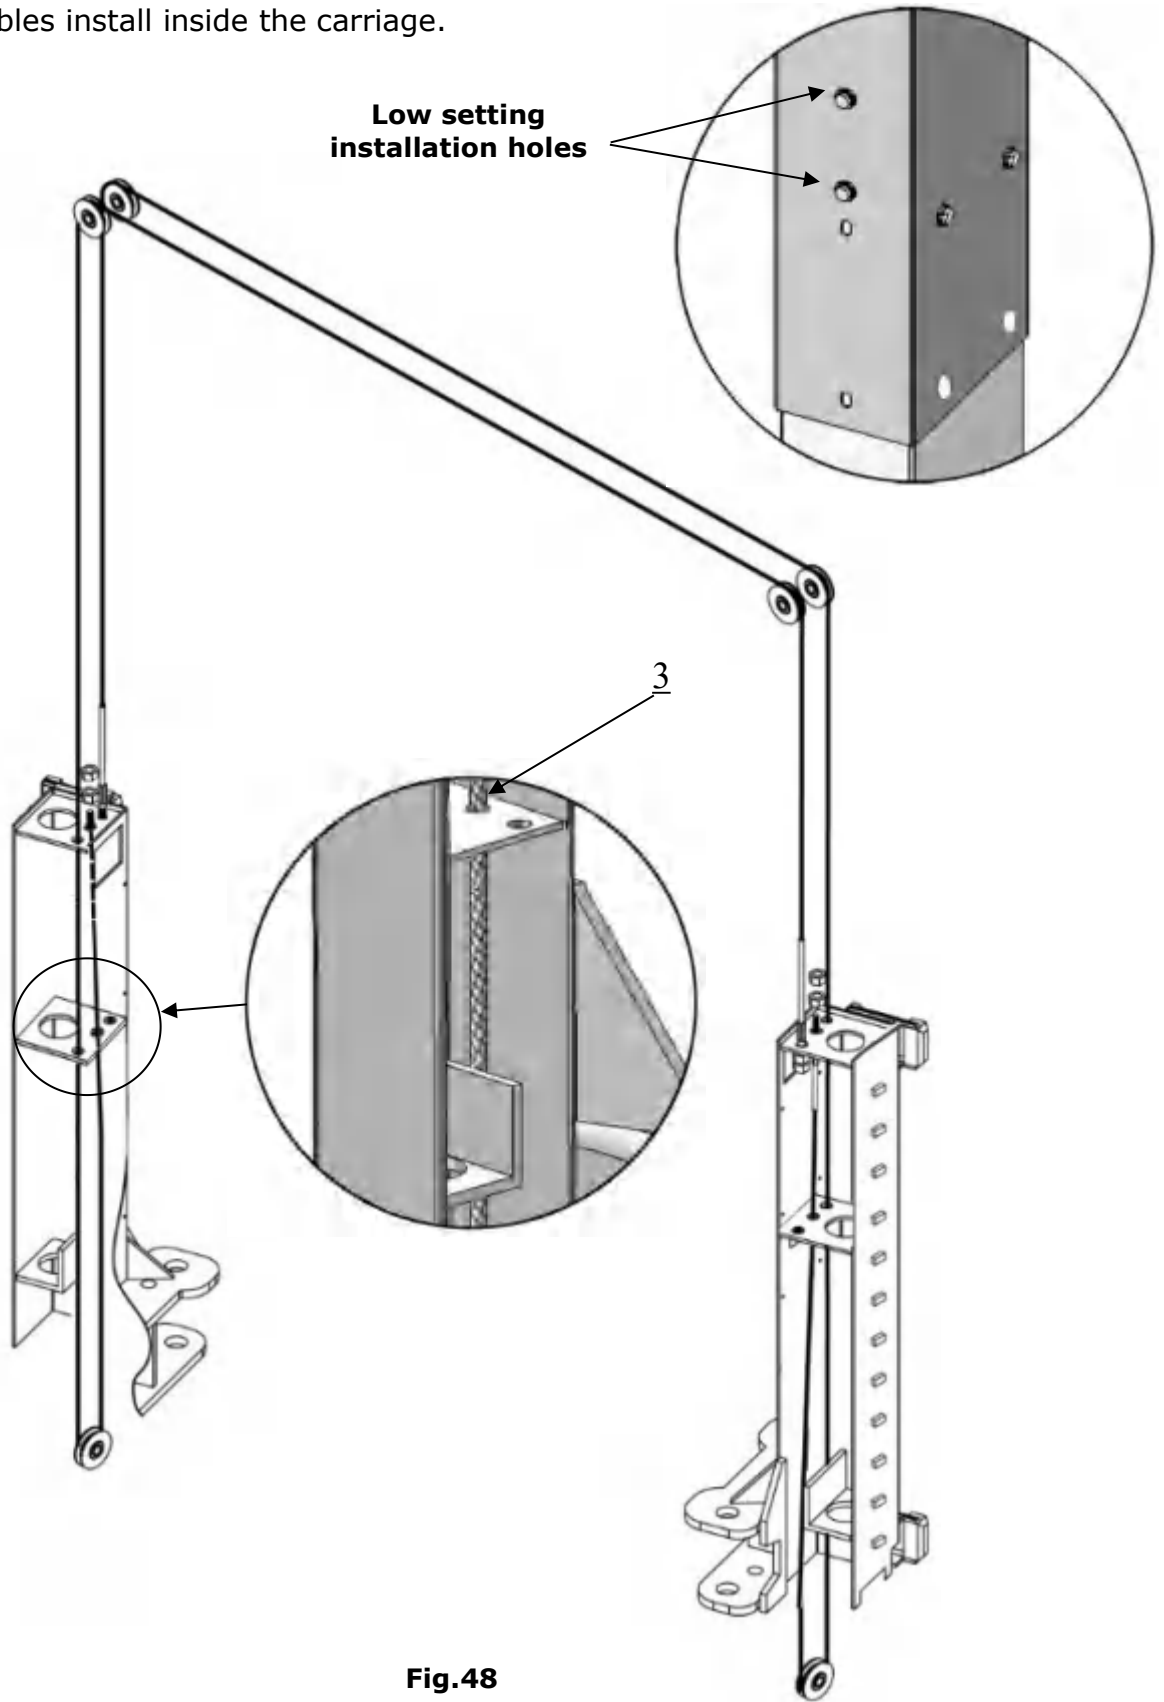

Fig.48
3.2 OHX-10H: Cable connection for low setting. (Fig. 48)